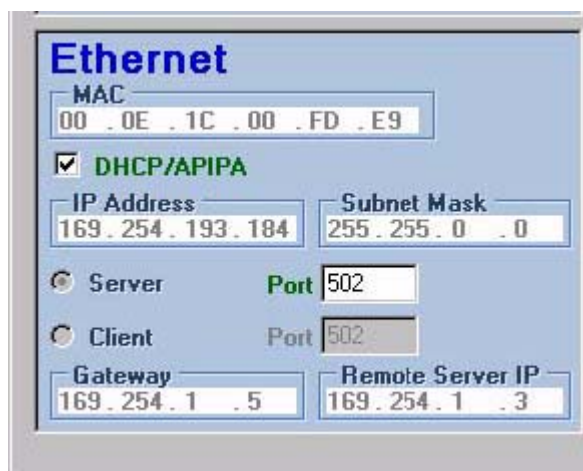

Figure 20 Ethernet section of utility program
Refer to Figure 20 and Table 7 for a description of the fields for Ethernet configuration.
3. Change the instrument settings if necessary. Refer to Figure 20 and Table 7 for a description of the settings. When configured as necessary, click **SAVE SETTINGS**.